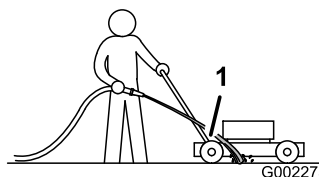

Figure 18
3. Hold the running garden hose at handle level and direct the water to flow on the ground just in front of the right, rear wheel (Figure 18).